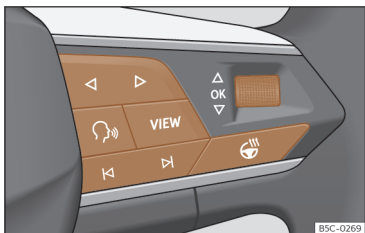

Fig. 9 Right side of multifunction steering wheel: buttons to the menus and informative indications on the instrument panel (depending on the version).
As long as a priority 1 >>> page 23 warning is active, it will not be possible to access any menu. Some warnings can be confirmed and hidden with the **OK** button of the multifunction steering wheel >>> **Fig. 9**.
- If a message or vehicle symbol is displayed, press the **OK** button >>> **Fig. 9**; several times if necessary.